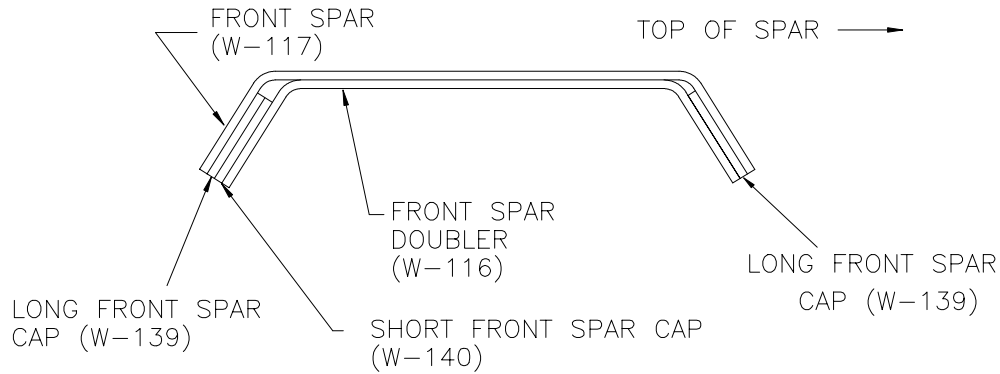

Figure 8.11.2
- 3) On the table lay out the right Front Spar (W-117), Front Spar Doubler (W-116), two long Front Spar Caps (W-139) and one short Front Spar Cap (W-140). Figure 8.11.2.